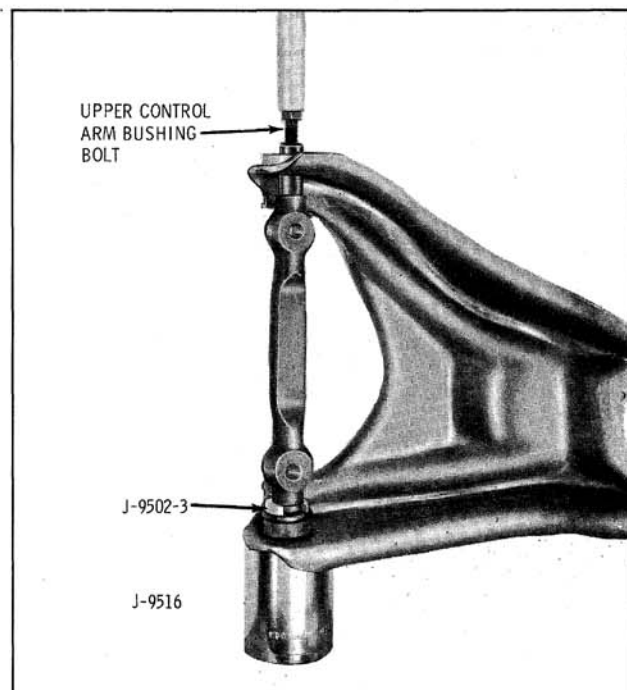

Fig. 9-134 Bushing Removal
4. To remove the other bushing, set up arm as shown in Fig. 9-134 and press bushing into the Back-Up Tool J-9516.